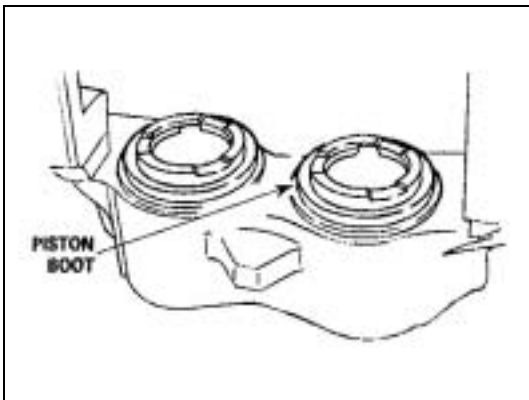

Figure 17
5. Install the piston boots over the projecting ends of the pistons and press the ring side of the boots into the boot bore. An old bearing cup equal to the boot ring size helps install the boots. Make sure the piston boot bead is seated back against the shoulder of the projecting end of the piston. Boots for the 64 mm and 70 mm piston are color-coded. **Figure 17.**